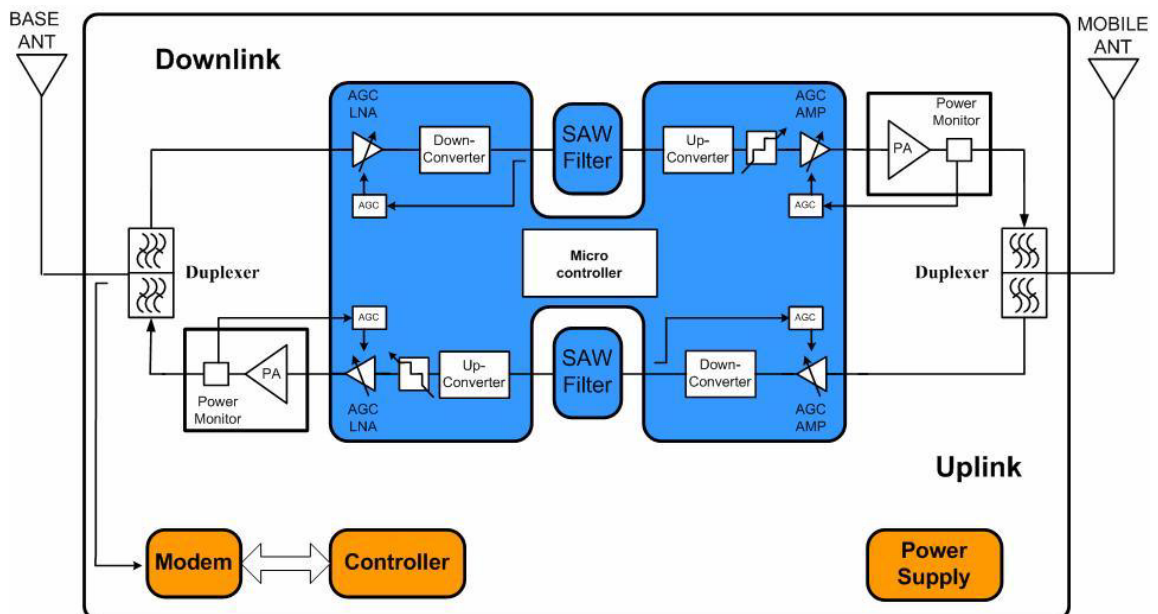

Figure 1: iDEN Repeater - Block Diagram
The incoming signal processing in the iDEN Repeater is processed similarly for both the Uplink and Downlink paths. Figure 1 provides a functional block diagram of the iDEN Repeater.
The block diagram showed in Figure 1 illustrates the overall functionality of the iDEN Repeater. Dekolink's programmable iDEN Repeaters employ advanced up/down conversion Intermediate Frequency (IF) Surface Acoustic Waves (SAW) filtering architecture. This new technology offers distinct advantages over conventional repeaters, when high adjacent selectivity and spectrum purity is required.